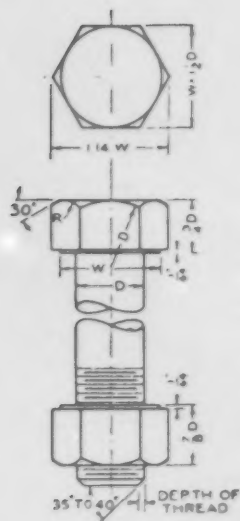

Fig. 1. Bolt dimensions
The dimensions of a bolt are found by using its diameter (D) as the unit of measurement (fig. 1). The diameter of a bolt is the diameter of the body. The length is measured from the underside of the head to the end. The head size of a bolt (W) is the wrench size. It is the distance between any two opposite faces, or flat sides, of the head.